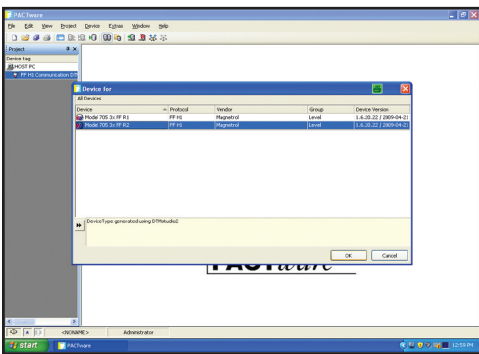

Figure 4
- b. The Model 705 3x FF R2 DTM for Revision 2 FF devices (with PID Block) (See Figure 4).